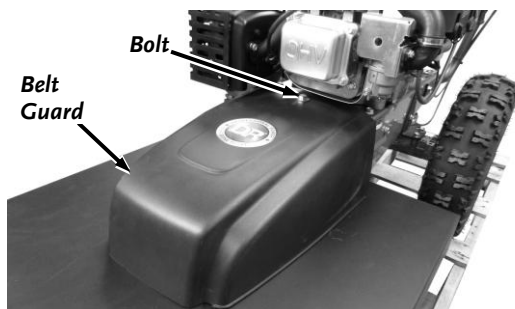

Figure 9
- If the Blade Engage Cable is adjusted properly, position the Belt Guard and secure with the 3/8-16 X 1.5" Flange Bolt using a 9/16" Wrench (**Figure 9**). Continue to the next page for more setup instructions.